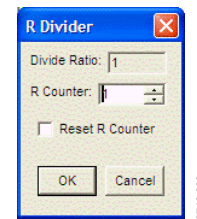

Figure 13. Reference Divider Window
6. Program the R (reference) divider by clicking the **R DIVIDER** box at the top of the main window. Set the desired value and click **OK** (see Figure 13).
The R divider window shown in Figure 13 is accessed by clicking the **R DIVIDER** box in the main window. It allows you to set the reference divider. If this box is colored gray, the PLL is off. To turn the PLL on, click the **PLL MODE** box at the top of the main window, and select **Norm Op**.